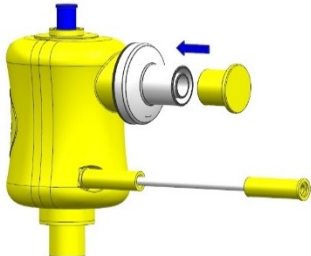

FIGURE 6
4. To supply O₂% equal to 100%, apply the cap present in the package to the air inlet filter (see **FIGURE 6**).